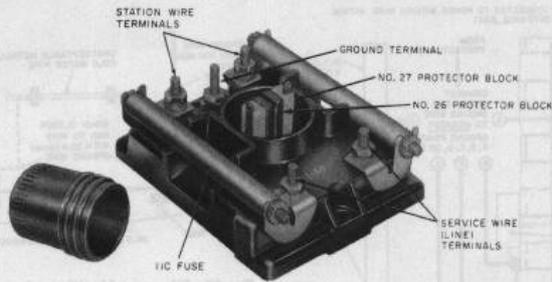

Fig. 44—#98A (MD) Protector
5.07 At older installations, the 98A (MD) protector may still be in use. The 98A (MD) protector (Fig. 44) consists of a base of nonconductive material containing five binding posts, two 11C fuses, and a carbon block protector well arranged for the use of No. 26 and No. 27 protector blocks. For outside installations, the 98A (MD) protector is mounted in a 93C (MD) protector mounting.